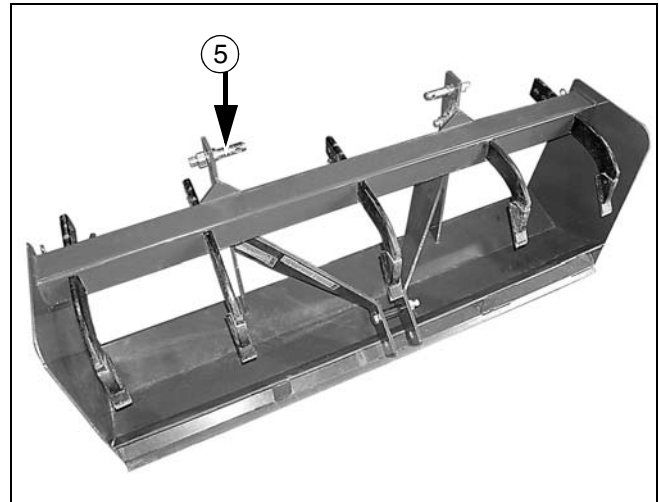

Figure 8. Shipping Configuration - Box Scraper
2. Remove hitch pins (5) with lock washers and nuts shown in Figure 8.